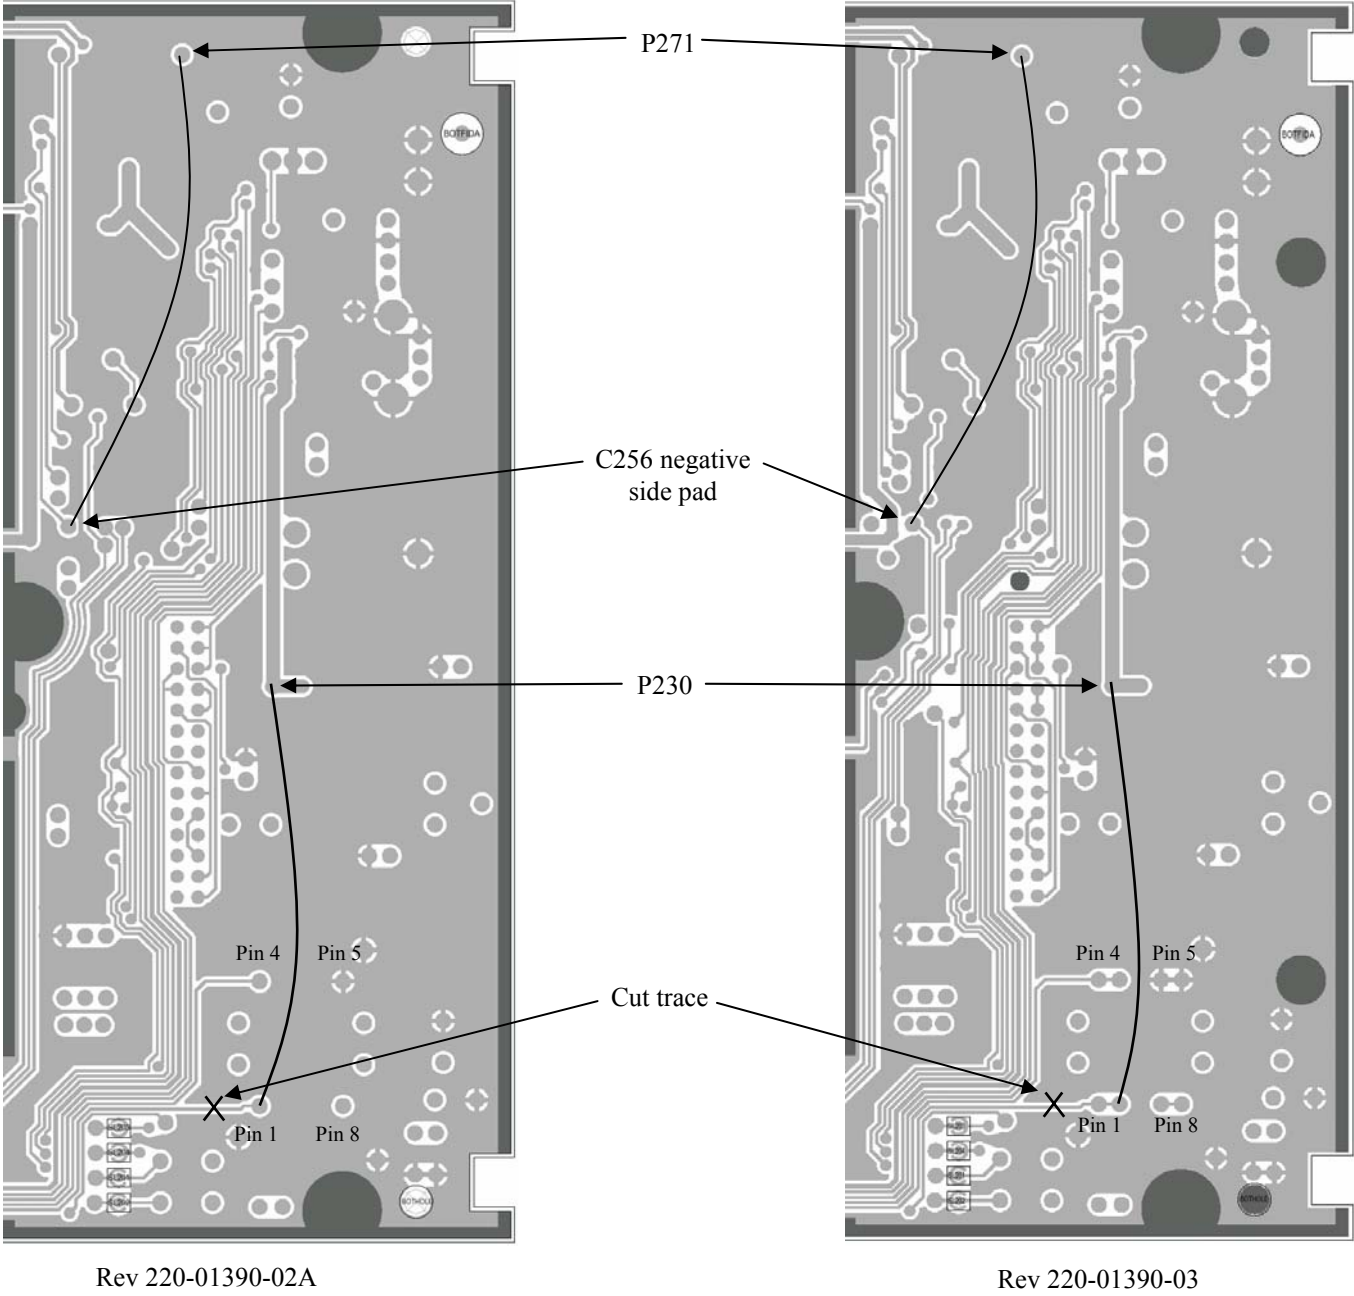

Figure 5 T837 PCB Layout Bottom Side 1/2
6. On the bottom side, cut the trace between pin 1 of T210 and the pad going to pin 4 of DRANGE connector (PL100) Refer to Figure 5 page 10.
7. Solder a 2.25" wire (26AWG) from the +9 volt feedthrough (pad 230) to pin 1 of T210. Refer to Figure 5 page 10.
8. Solder a short wire (gauge 26, 2.75" long) from feedthrough connected to P271(Buff-in) to C265 negative side pad. Refer to Figure 5 page 10.